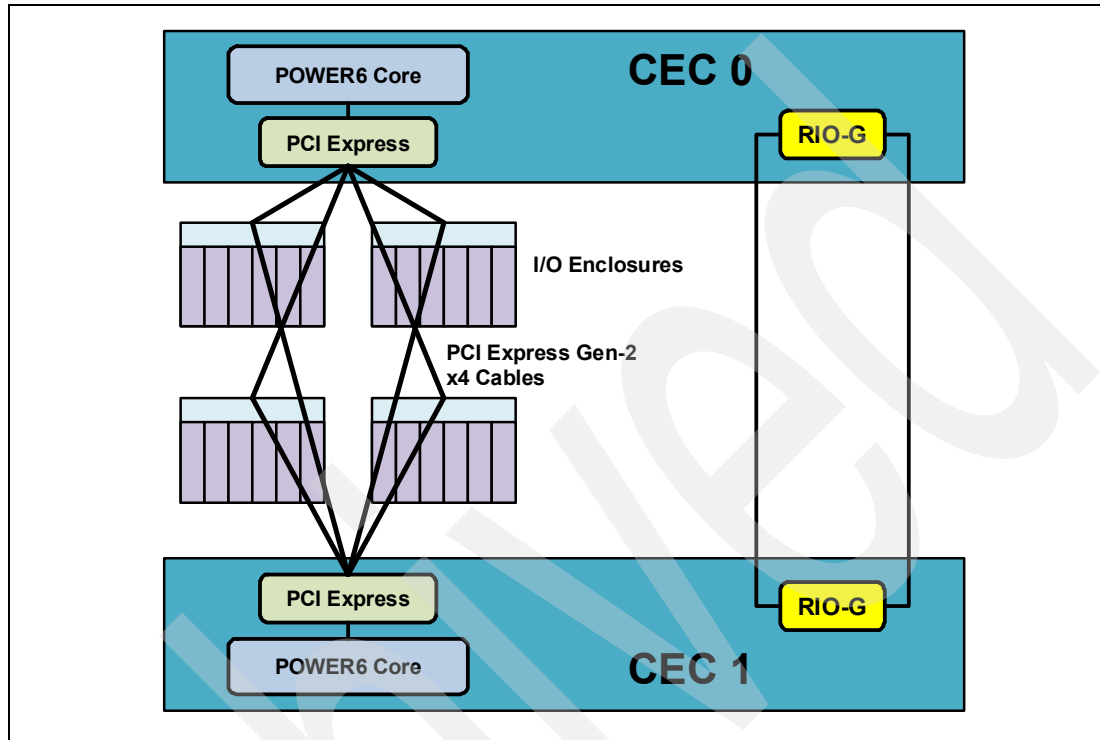

Figure 4-1 DS8700 design of RIO-G loop and I/O enclosures
For the DS8700, the I/O Enclosures are wired point-to-point with each CEC using a PCI Express architecture. This means that only the CEC-to-CEC (XC) communications are now carried on the RIO-G and the RIO loop configuration is greatly simplified. Figure 4-1 shows the new fabric design of the DS8700.
The DS8700 I/O enclosure, also called a *bay*, is a new design compared to previous models of the DS8000 family. The older DS8000 bay consisted of multiple parts that required removal of the bay and disassembly for service. In the DS8700, the switch card can be replaced without removing the I/O cards, reducing time and effort in servicing the enclosure. As shown in Figure 4-1 on page 62, each CEC is connected to all four bays via PCI Express cables. This makes each bay an extension of each server.